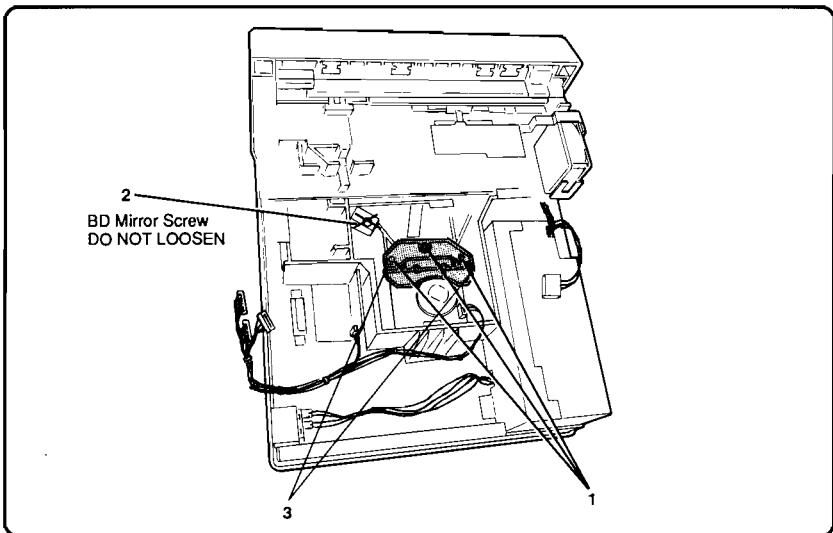

Figure 6-49. Focusing Lens Removal
- **Do not touch the Focusing Lens Assembly.** Handle by the edges only (see Figure 6-49, callout 3). If the lens becomes dirty, it must be replaced (this part cannot be cleaned).
- **Do not loosen the BD Mirror screw.** The mirror requires factory alignment. If this screw is loosened the printer **must** be replaced (see Figure 6-49, callout 2).
7. Remove the screws (3) securing the Focusing Lens Assembly (see Figure 6-49, callout 1) and then remove the lens.
7. Remove the Focusing Lens Assembly (see Figure 6-49).